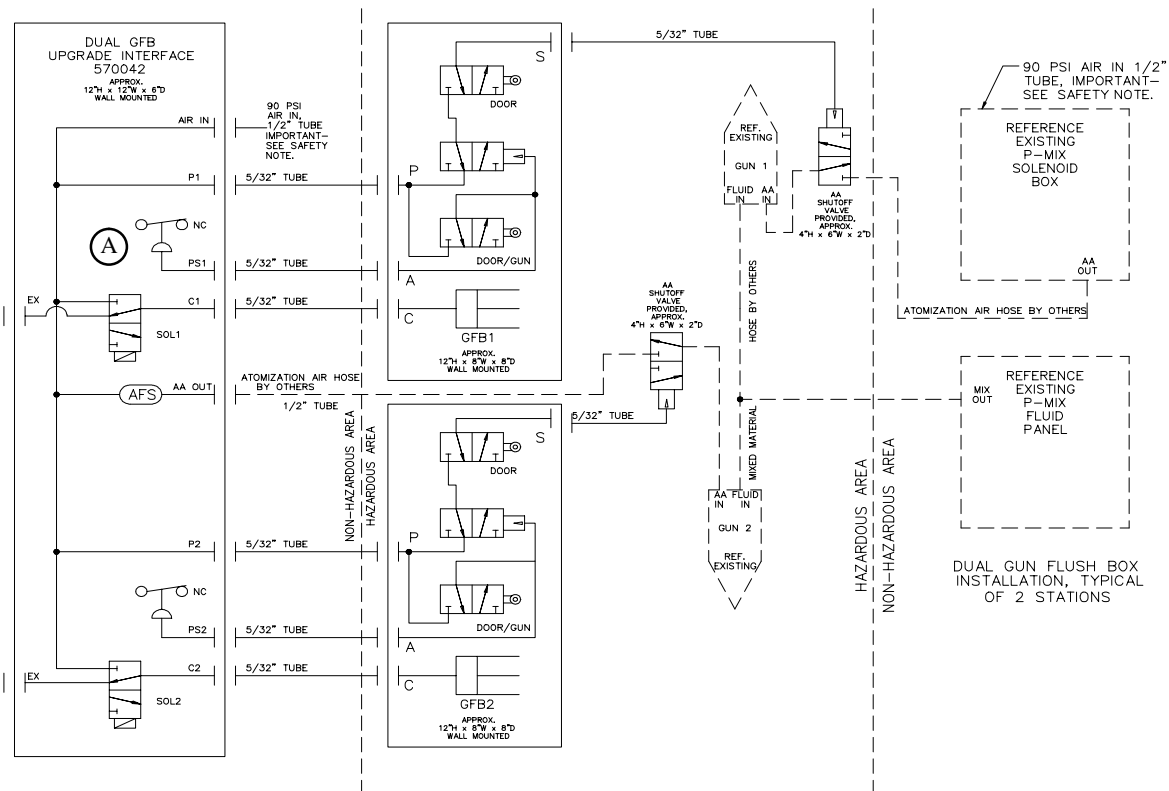

Fig. 6
See Fig. 6 for detailed information on the Gun Flush Box internal pneumatics.
2. Connect a 5/32" (4 mm) OD tube between the **A** bulkhead and the return air input on the controller. See Fig. 6.
3. Connect a 5/32" (4 mm) OD tube between **C** bulkhead and the gun trigger solenoid output on the solenoid box or the Gun Flush Box control box. See Fig. 6.